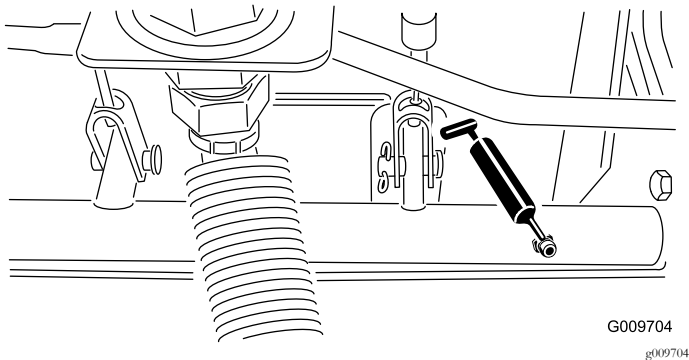

Figure 33
- Brake-shaft pivot bearings (5) as shown in Figure 33